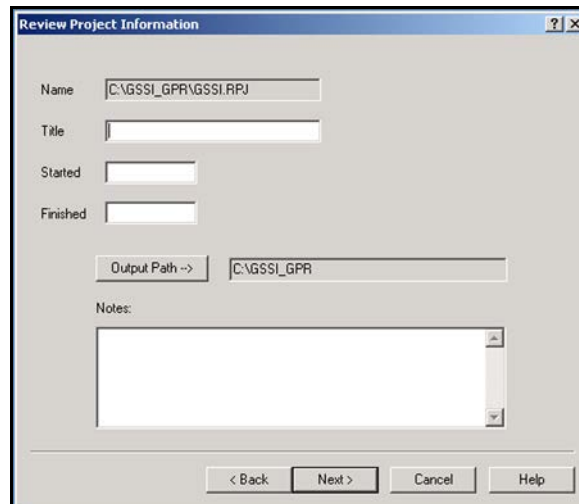

Figure 11: Project Information dialog box.
- Click Next >. This will open a new window with the heading Review Project Information (Figure 11).